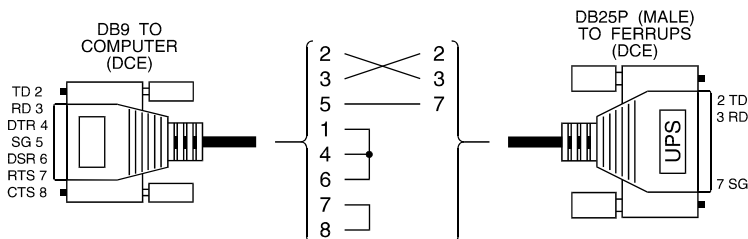
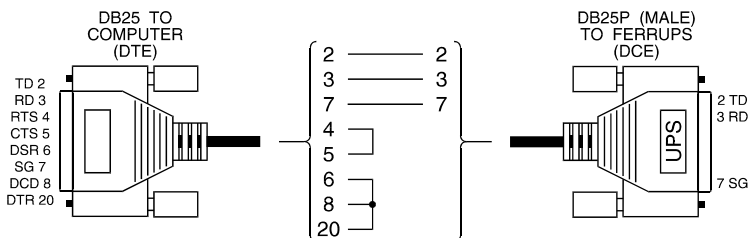
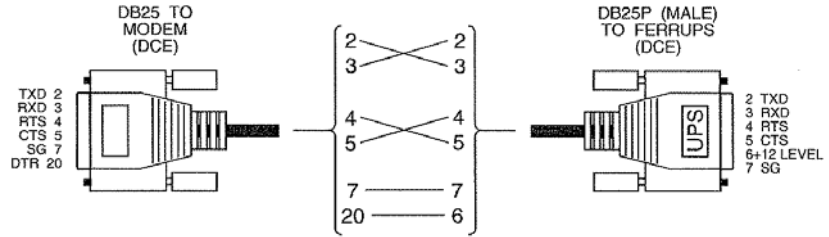

Figure 12. DB-9 to UPS Pinout
Figure 13. DB-25 to UPS Pinout
Figure 15. DB-25 to UPS Pinout (with handshaking)
1. Obtain a cable designed specifically for this purpose (see Figure 12 and Figure 13). Eaton offers cables for computers or terminals using 25-pin or 9-pin serial ports; call your service representative to order one of these cables. If you would like to build your own cable, follow these requirements:
- **Do not use a standard 25-conductor straight-through cable;** only include straight-through connections for the pins shown in Figure 12 and Figure 13.
The FERRUPS UPS communication port is wired as a DCE (data communication equipment) device. Since most modems are also wired DCE, you must use a “null modem” cable to connect the modem to the UPS. See Figure 12 and Figure 13 to build a cable to connect the UPS to a modem. If you want to use handshaking, see Figure 15.